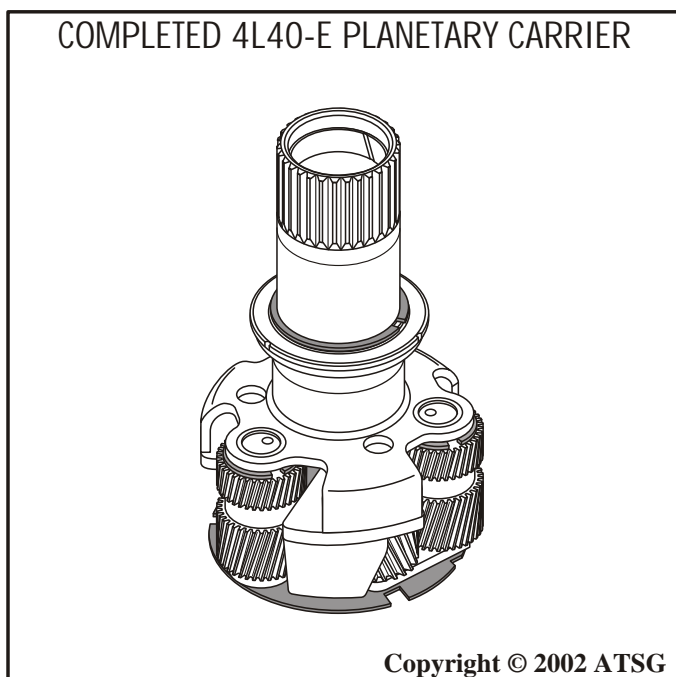

Figure 160
3. Set the completed 4L40-E planetary carrier, as shown in Figure 160, for final assembly.